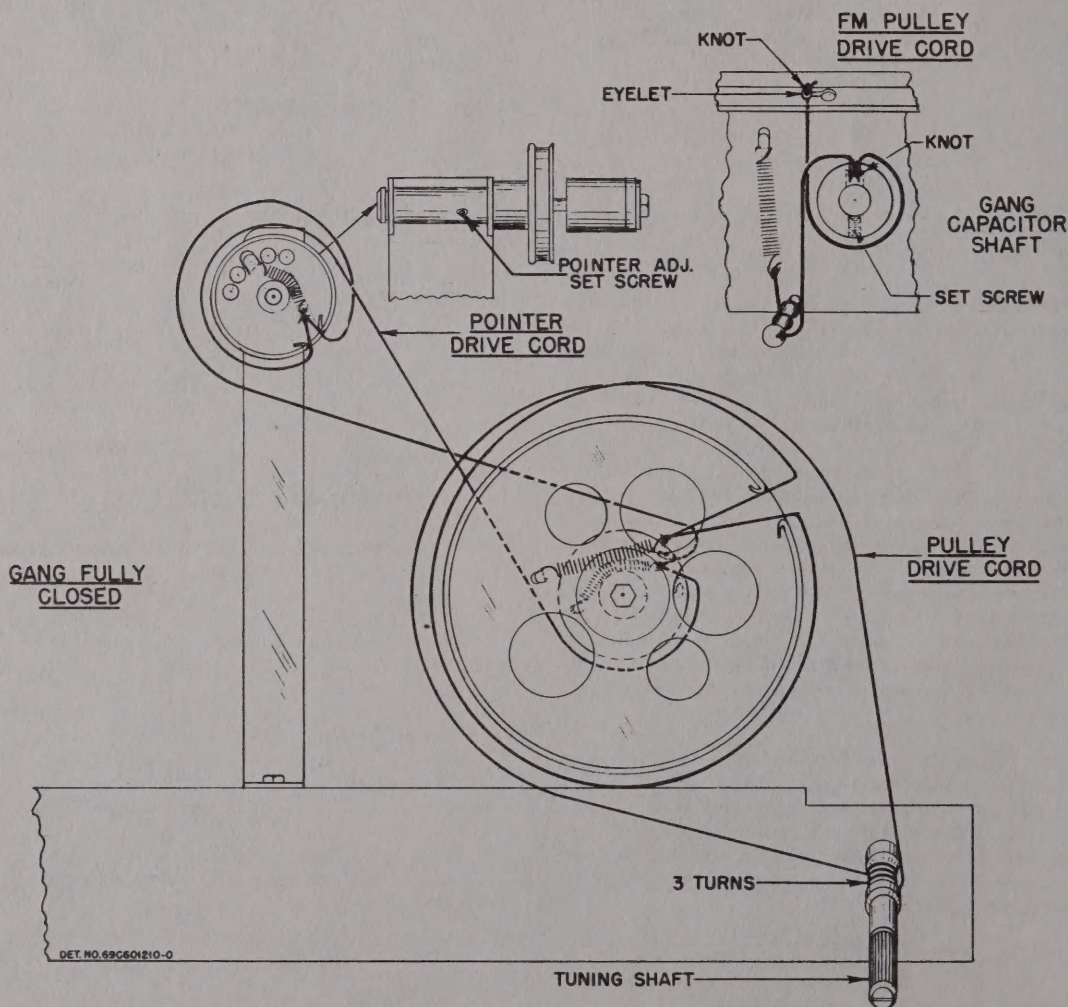

FIGURE 3. POINTER AND DRIVE CORD RESTRINGING DETAIL
5. From the back of the cabinet, loosen the pointer adjustment setscrew (see Figure 3) and pull the pointer and shaft assembly from the chassis. **CAUTION: Do not remove the nut from the front of the pointer, as the detent ball and spring will fall out, and may become lost.**
2. From the back of the cabinet, loosen the pointer adjustment setscrew (see Figure 3). **CAUTION: Do not remove the nut from the front of the pointer.**